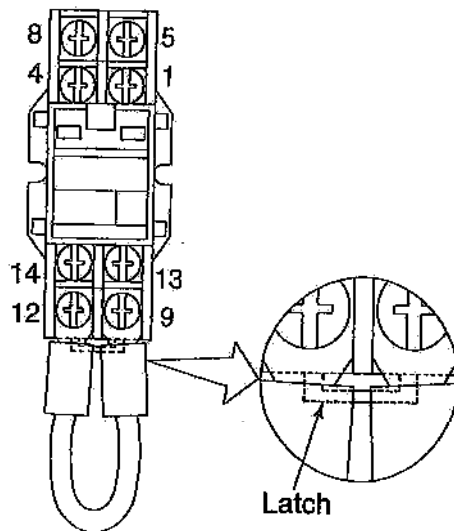

Figure 4
13. Remove wires from the R16 relay socket and remove socket from din rail by pulling down latch on bottom (use a small straight seal pick). See Figure 4.
14. Using Double Relay Socket (#067662-002) attach the two red wires (separated), one on terminal #9 and the other on terminal #12 (bottom) with the red jumper wire already there. Do not remove the red jumper wire. Attach Red/Black/White wire to terminal #14. Attach the two Black wires to terminal #13. Attach Red wire to terminal #8 (top). See Figure 4 for terminal locations.